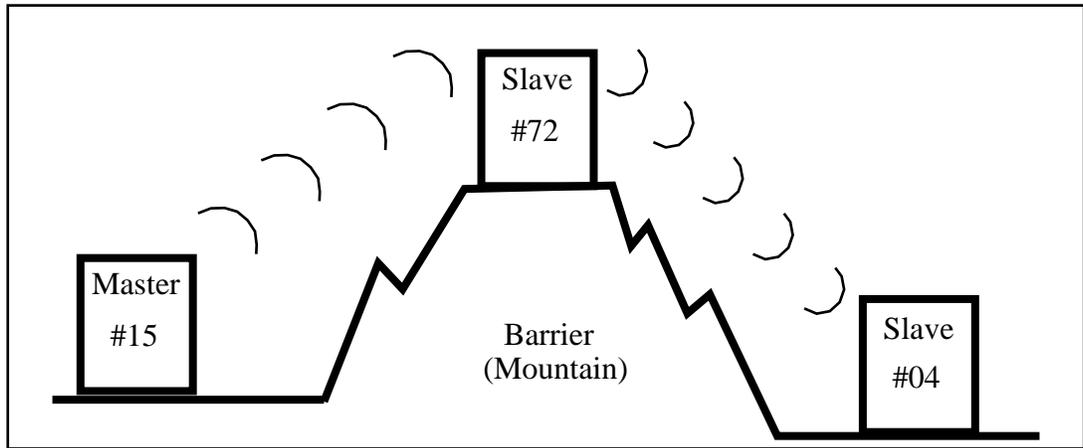

Figure 13-2 RNIM Repeater Example
Figure 13-2 displays an RNIM Master (15) on one side of a mountain, a Slave (04) on the other side of the mountain, and a Slave (72) at the top that can communicate with the other two. If a source on the Master's network (16) wants to send a READ to a PLC (87) on the Slave's network on the other side of the mountain, the route would be: 16, 15, 172, 4, 87.